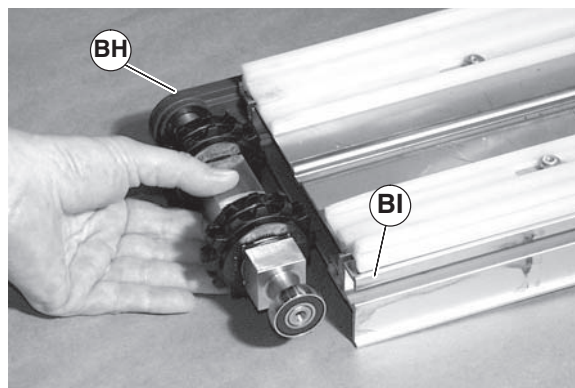

Figure 44
- Install pulley assembly on conveyor. Slide spindle into installed head plate Figure 44.